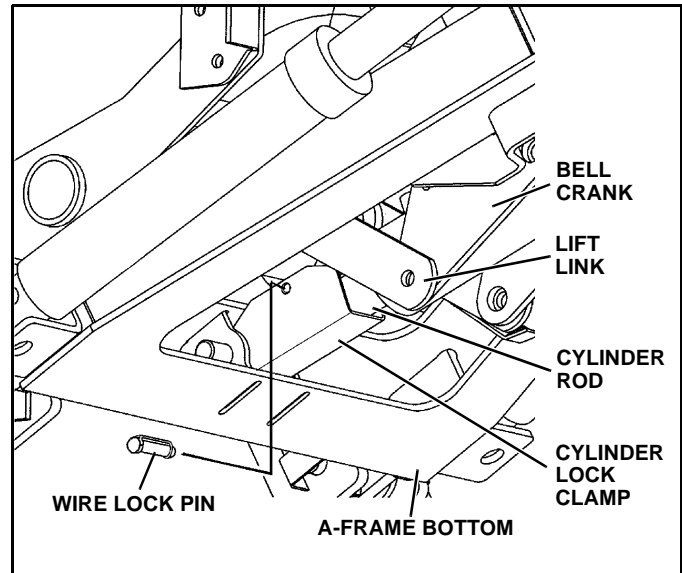

Figure 1-27
5. Position the cylinder lock clamp around the exposed (chrome) portion of the lift cylinder with the open side of the cylinder lock up. Install the pin. (See Figure 1-27).